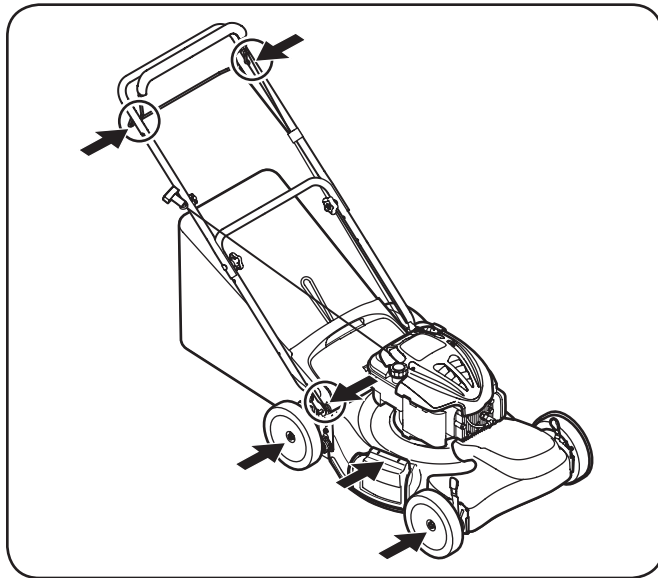

Figure 6-1
1. Lubricate pivot points on the blade and drive controls at least once a season with light oil. These controls must operate freely in both directions. See Fig. 6-1.
2. Lubricate the wheels at least once a season with light oil (or motor oil). If wheels are removed for any reason, lubricate surface of the pivot arm and inner surface of the wheel with light oil. See Fig. 6-1.
3. Lubricate the torsion spring and pivot points on the rear discharge door and side mulch plug periodically with light oil to prevent rust. See Fig. 6-1.